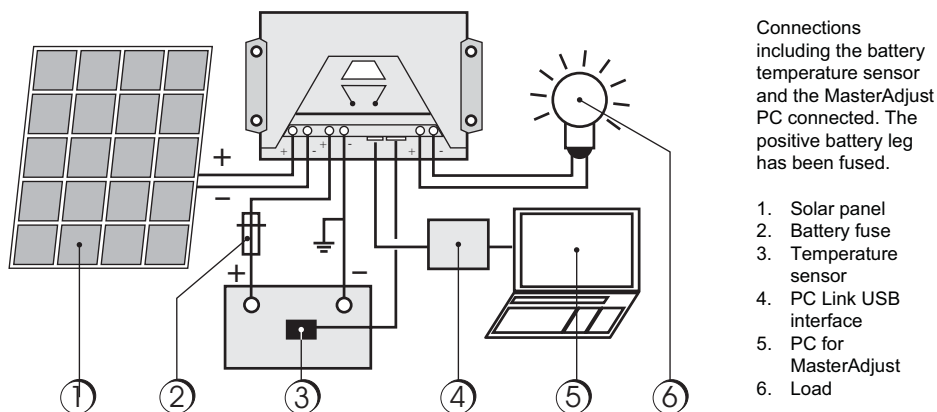

Figure 7: Connections
Be aware that the Solar ChargeMaster has negative grounding. See also figure 7. The negative terminals of the Solar ChargeMaster controller are connected internally and therefore have the same electrical potential. If any grounding is required, always connect this to the negative wires.
4. Connect the wires leading to the battery with correct polarity. See figure 7. To avoid any voltage on the wires, first connect the controller, then the battery.
6. Connect the wires leading to the loads with correct polarity. See figure 7.